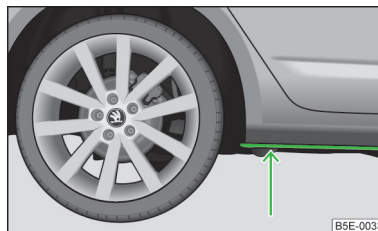

Fig. 126
- Determine the depth of the water when driving through bodies of water. The water level must not reach above the bar on the lower beam » Fig. 126.